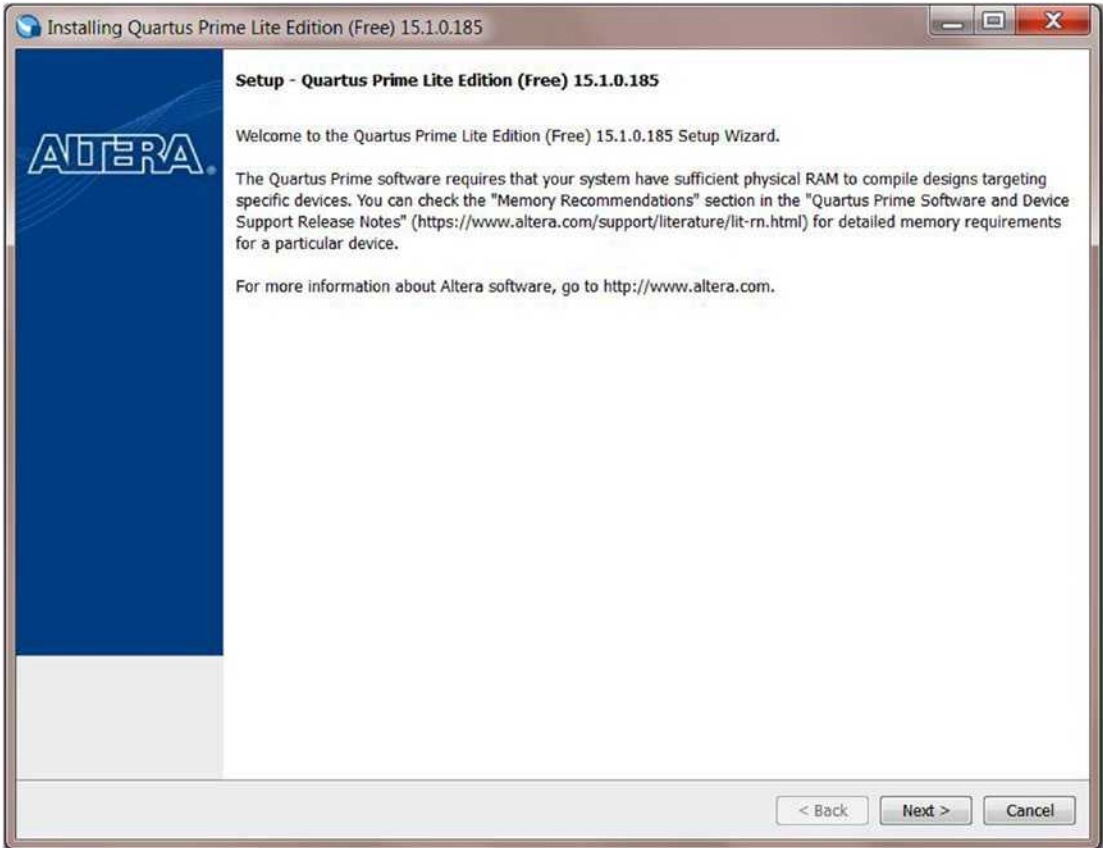

Figure 3-10. Installing Quartus Prime Lite Edition (Free)
1. For the individual files method: if you are using Windows, run the file QuartusLiteSetup-<version>-windows.exe. For the combined file method, you must unzip the .tar file to extract the installation files. Examples of unzipping tools: WinZip, 7-zip, or WinRAR. You need to unzip the files on the same directory and run Setup.bat. Both ways will bring you to the Setup Wizard as in Figure 3-10. Just click *Next*.